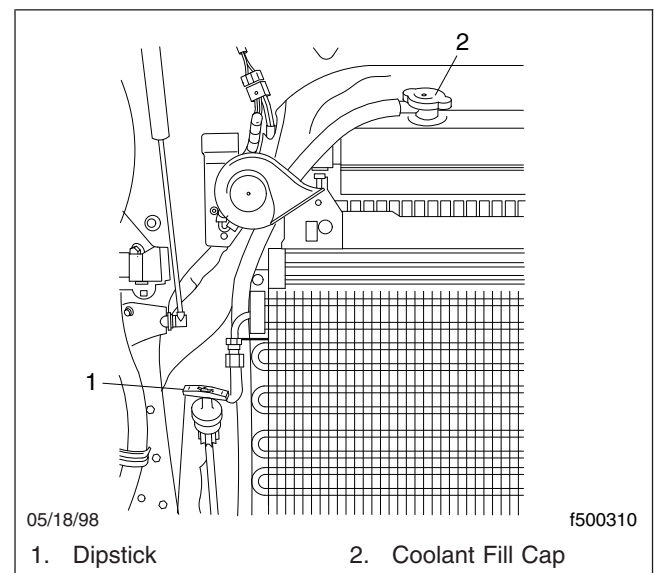

Fig. 23.6, Oil Level Checking
- 2.1 Check the oil level with the vehicle parked on a level surface. See Fig. 23.6. See the engine manufacturer's guidelines for engine shutdown time requirements prior to checking the oil level.
3. Check the engine coolant level in the radiator surge tank. See **Fig. 23.6**.